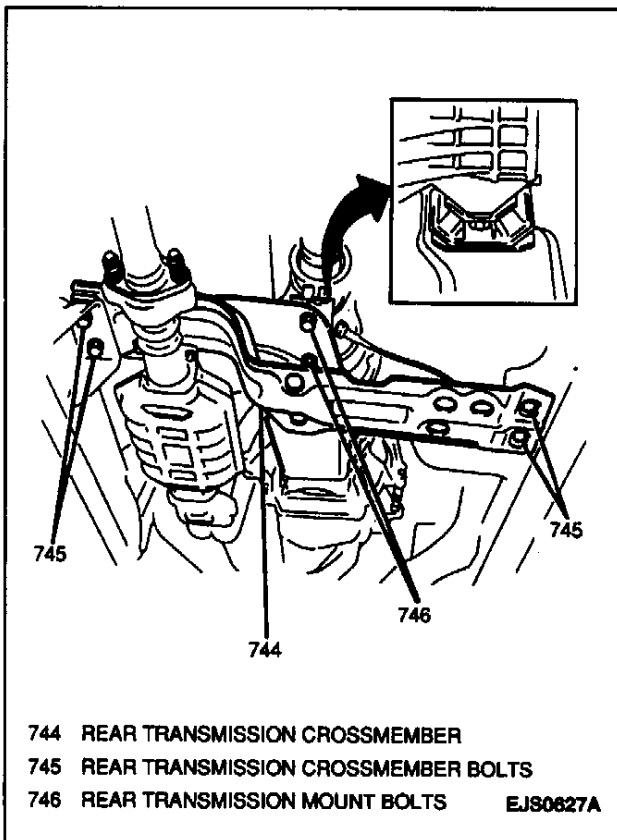

Figure 121—Rear Transmission Crossmember and Mount Bolts
28. Two bolts from rear transmission mount (two-wheel drive models) (Figure 121).
29. Four bolts and rear transmission crossmember from vehicle (two-wheel drive models) (Figure 121).
18. Rear transmission crossmember to undercarriage (two-wheel drive models); secure with four bolts (Figure 121).
19. Two bolts to rear transmission mount (two-wheel drive models) (Figure 121).